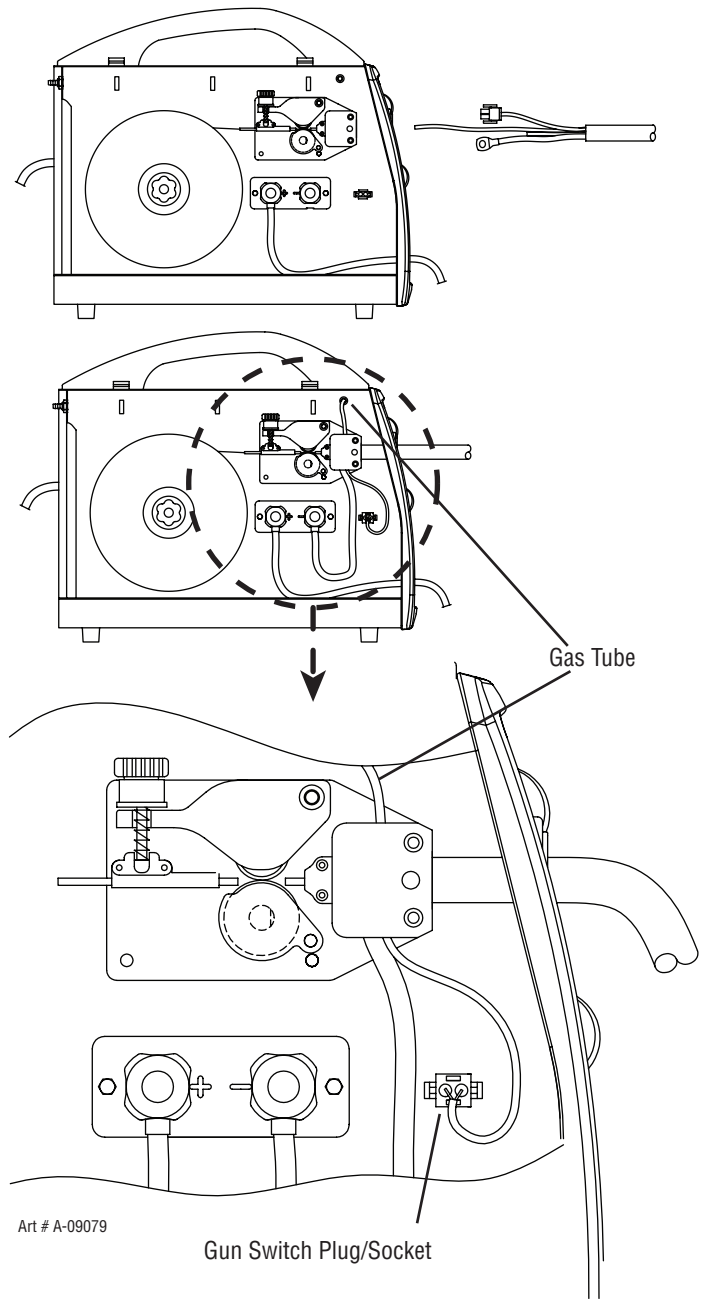

Figure 3-3: Attaching Gun and Cable
2. Connect the gun cable to the power source by first routing the switch lead through the access hole in the front panel followed by the gun cable (see Figure 3-3).
3. Loosen the screws and insert the gun cable end as far as it will go. Tighten thumbscrew (see Figure 3-3).
4. Insert the gun switch plug into the gun switch socket (see Figure 3-3).